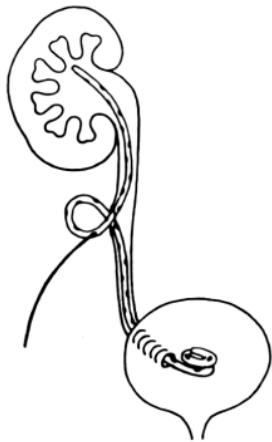

Fig. 4
6. Grasping the stent and wire guide, advance the stent through the same incision and into the renal pelvis (**Fig. 4**).